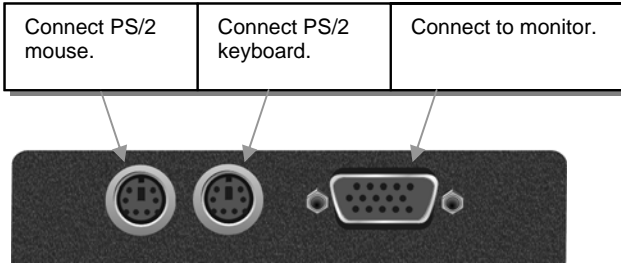
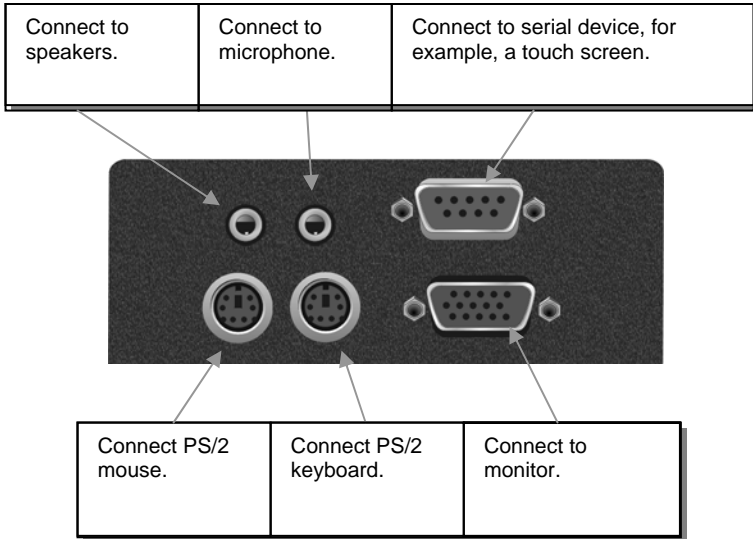

Figure 2
Figure 3 Audio Remote Unit/Hub Port– rear view
2. Connect your keyboard, monitor(s) and mouse to the Remote Unit/Hub port as shown in Figure 2 (Standard) and Figure 3 (Serial/Audio).